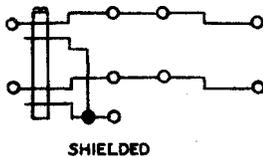

Fig. 5—305A or B Plug
2.04 **305A and B:** The 305A and B (Fig. 5) are shielded, twin, double-conductor plugs with common sleeve connections. The 305A and B plugs are used with the 230-, 410-, or similar-type jacks.